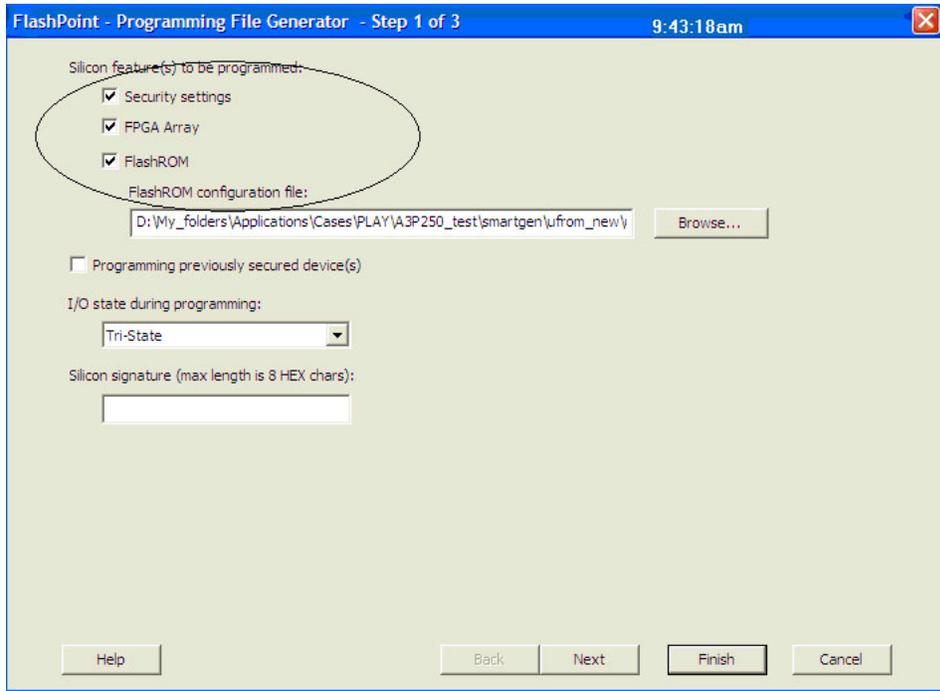
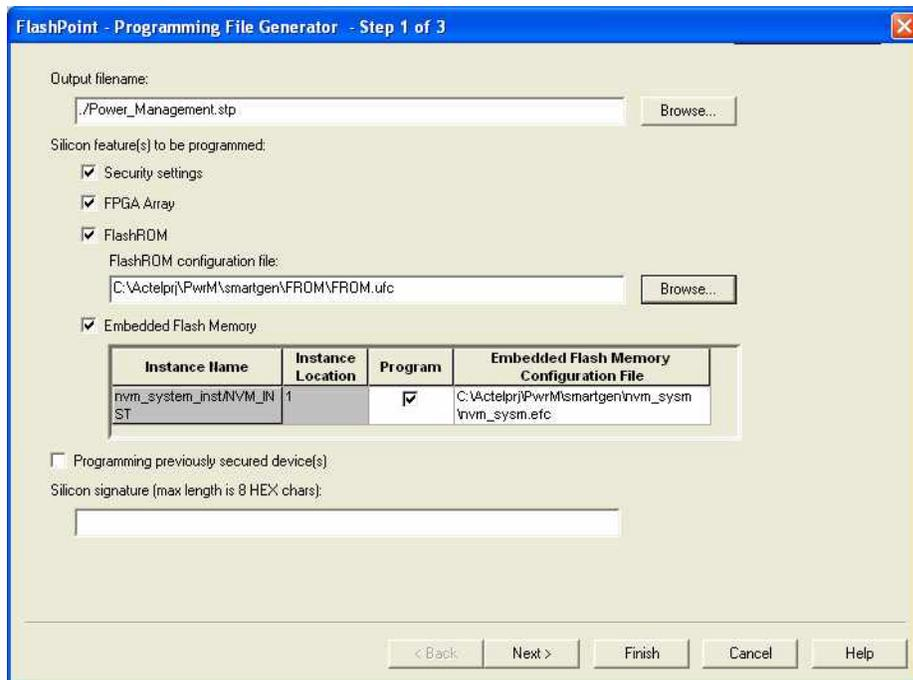
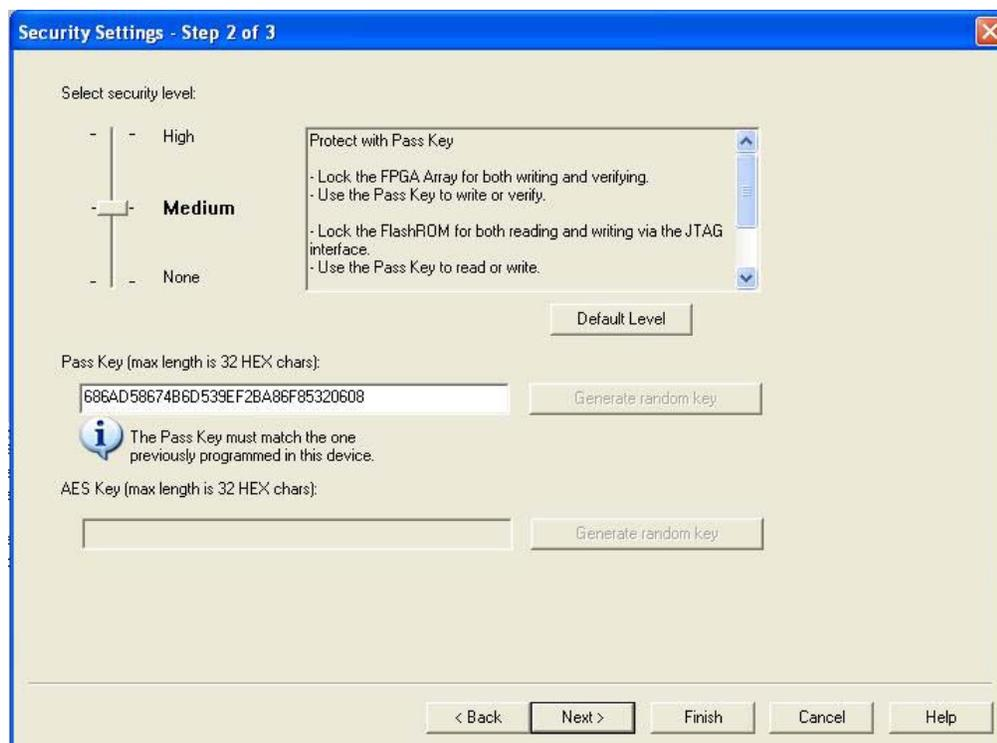

Figure 17-10 • All Silicon Features Selected for IGLOO and ProASIC3 Devices
Figure 17-11 • All Silicon Features Selected for Fusion
Figure 17-19 • FlashLock Pass Key, Previously Programmed Devices
1. Select the **Silicon features to be programmed** (Security Settings, FPGA Array, FlashROM, Flash Memory Blocks), as shown in Figure 17-10 on page 378 and Figure 17-11 on page 378. Click **Next**.
Figure 17-10 on page 378 and Figure 17-11 on page 378 show the option **Programming previously secured device(s)**, which the user should select before proceeding. Upon going to the next step, the user will be notified that the same FlashLock Pass Key needs to be entered, as shown in Figure 17-19 on page 386.
It is important to note that when the security settings need to be updated, the user also needs to select the **Security settings** check box in Step 1, as shown in Figure 17-10 on page 378 and Figure 17-11 on page 378, to modify the security settings. The user must consider the following: